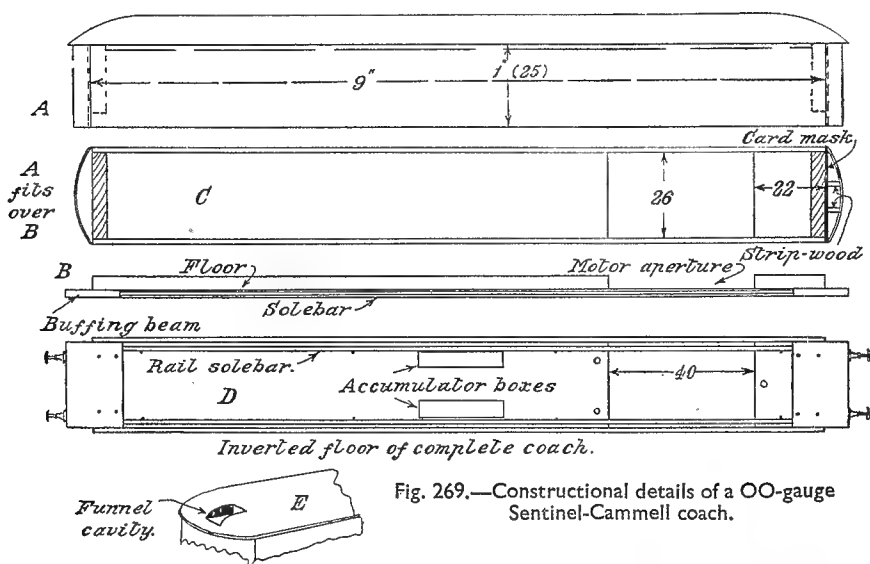

Fig. 269.—Constructional details of a OO-gauge Sentinel-Cammell coach.
In fitting the standard coach mechanism, the way to proceed is to build up the floor of the coach directly on to the motor plate, by screwing it to two pieces of plywood, one  $6\frac{3}{8}$  in. by 26 mm., the other  $\frac{7}{8}$  in. by 26 mm. These pieces are held rigid by the motor itself and by the rail solebars which pass along the whole of the underside, as shown in the sketch D of Fig. 269. The body and roof are in one piece (A), the sides consisting simply of strips of glass 9 in. long by 1 in. wide, as thin as possible. There is a cardboard soffit under the roof to fit inside the glass, the ends of the glass being bound in parcel-strip to the ends : the latter should clear the floor and yet rest on it. Paint black the inside of the ends which faces up to the glass windows. Two pieces of bent celluloid are then attached with strip to the sides to form the shaped ends, and these are retained in their bow by means of a short piece of stripwood glued upright inside. A small recess is cut in the roof to receive the funnel, which is a “Merco” component. For the buffer-beams, use two pieces of fretwood of the same thickness as the solebar, and let them project about  $\frac{1}{4}$  in. beyond the ends. Oval buffers are fitted. The dummy accumulator boxes serve to conceal the collector wires, which are shaped by coiling them around a thin pencil, in order to give extreme flexibility to the bogies. These lithos may also be had without lettering.